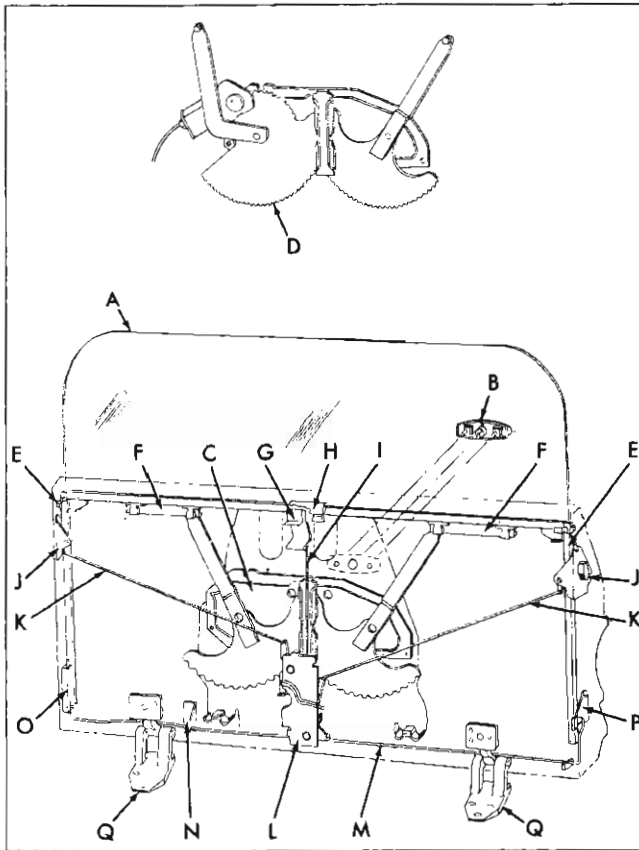

Fig. 85—Tail Gate Assembly Components
while the end of the rod secured to the body pillar remains stationary. This creates an assisting torque to hold the tail gate as the gate approaches and reaches the open position. This torque also assists in closing the tail gate. Figure 85 is a phantom view which identifies and shows the relationship of major component parts of the tail gate assembly.
7. To install tail gate torque rod, reverse removal procedure. Make sure left end of torque rod is properly engaged in both notches of side retainer at left side of tail gate (fig. 85).